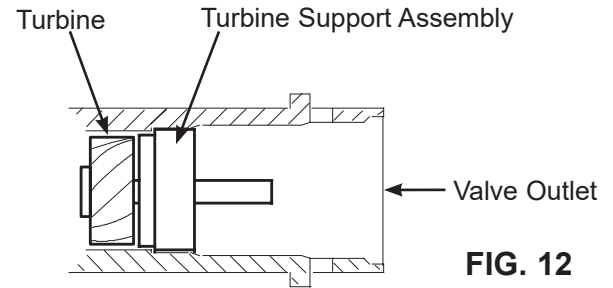

FIG. 12
- c. Make sure the turbine assembly spins freely in the "out" port of the valve (See Figure 12).